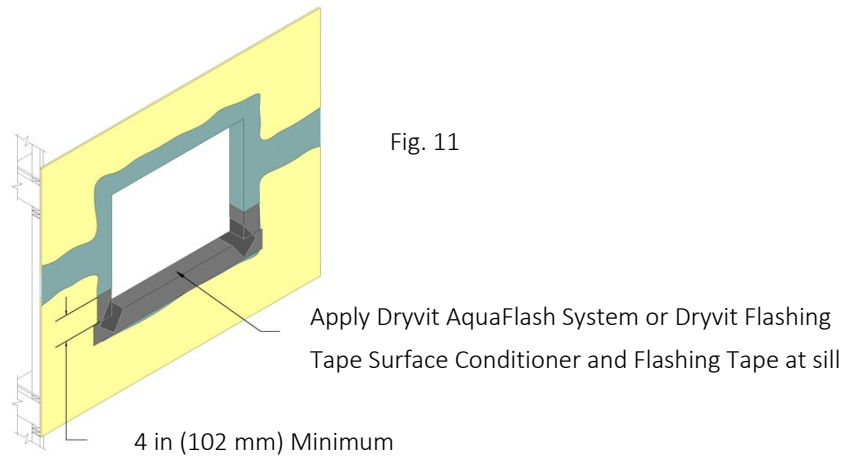

Fig. 11
- 3) Apply Dryvit AquaFlash System or Flashing Tape at sill in accordance with Sections IV.A.3 and IV.C respectively. **NOTE: AquaFlash System or Flashing Tape must extend up the jambs a minimum of 4 in (102 mm) – Figure 11.**